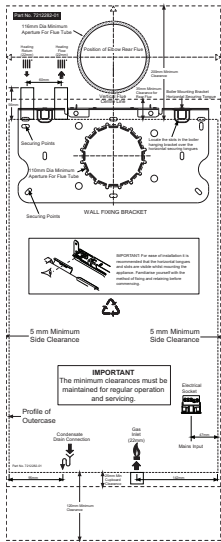
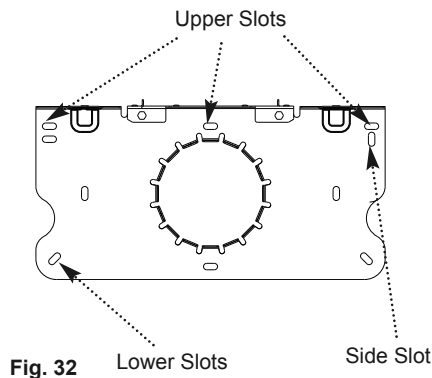

Fig. 33
Fig. 32
1. Position the fixing template on the wall ensuring it is level. Mark the position of the most suitable upper fixing slots for the wall bracket (Fig. 33). The two lower slots MUST be used, and it is recommended that the side slot is used where possible (Fig. 32).
2. Mark the position of the centre of the flue hole. If required mark the centrelines of the gas supply, condensate drain and heating flow & return pipes. Remove the template (Fig. 33).